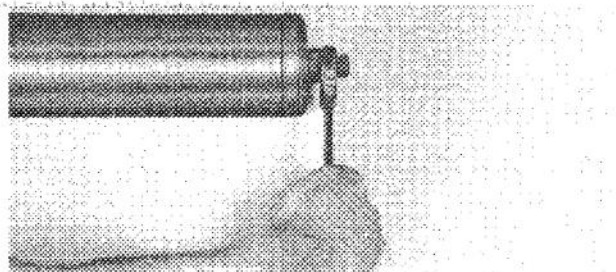

Figure 43
4. Slide one (1) sleeve onto roller shaft against double jam nuts.
6. Pour approximately one (1) pint (16 ounces [0.0296 l]) of SAE 90 or 140 gear oil into the roller housing.
9. Install elastic stop nut and secure by holding double jam nuts. Tighten elastic stop nut (Fig. 43).